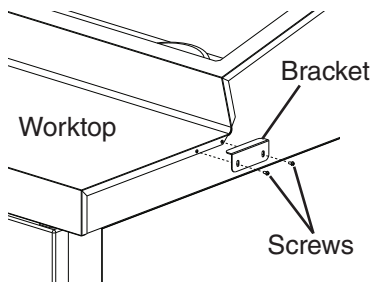

Fig. 6
- 1) Attach the cutting board brackets to the ends of the worktop using the 4×8 stainless steel sheet-metal screws provided. Snug the screws, but do not tighten. See Fig. 6.